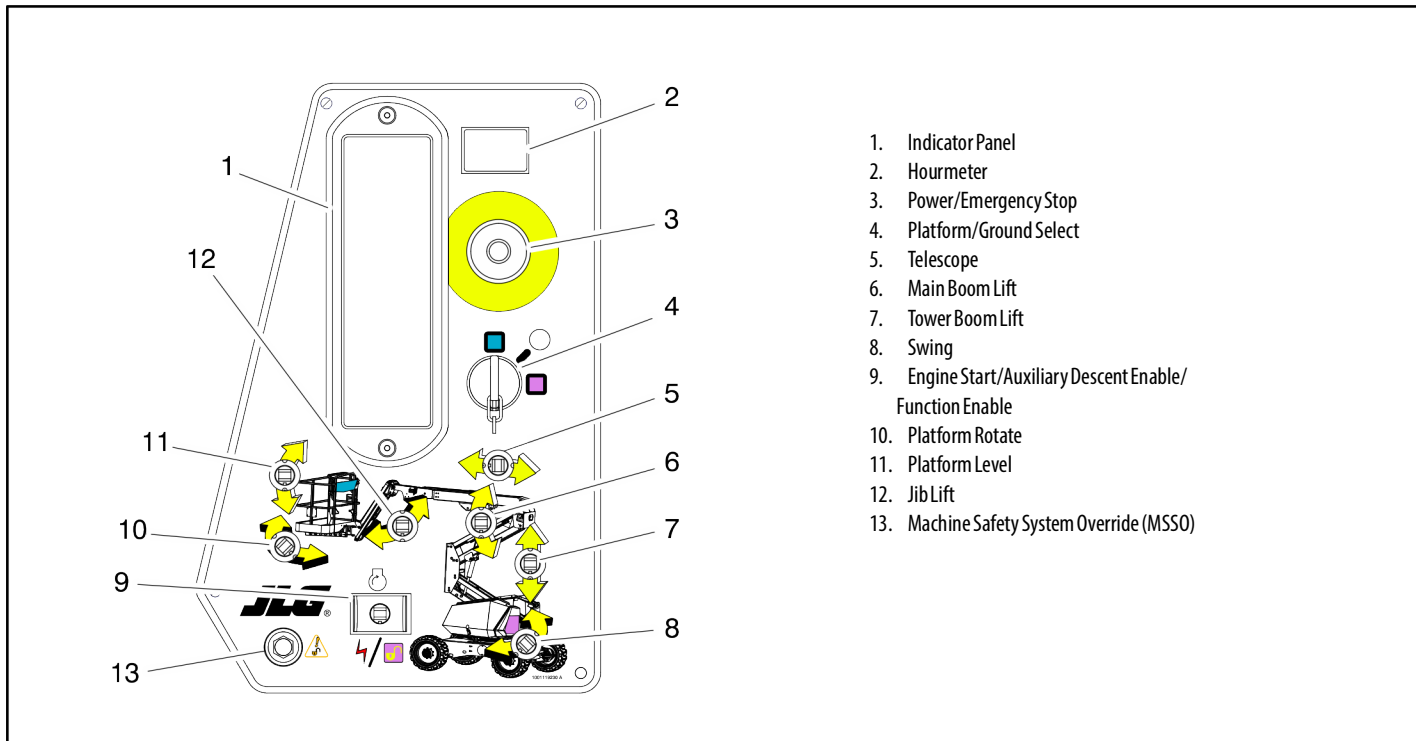

Figure 3-2. Ground Control Station with Machine Safety System Override (MSSO) (CE Only)
*See Figure 3-1., Ground Control Station and Figure 3-2., Ground Control Station with Machine Safety System Override (MSSO) (CE Only)*